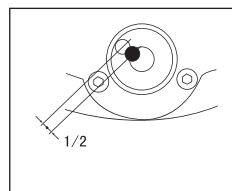

Figure 7
- Check the bubble level (10). Use the leveling screws (9) to position the bubble level (10) in the center. Turn the device 180 degrees. If the bubble level stays in the center, the device is calibrated.
- If the bubble level is not in the center, rotate the leveling screws (9) to move the bubble level. The bubble should be placed at least on the 1/2 between the center and the outer end of the circle (Fig. 7).